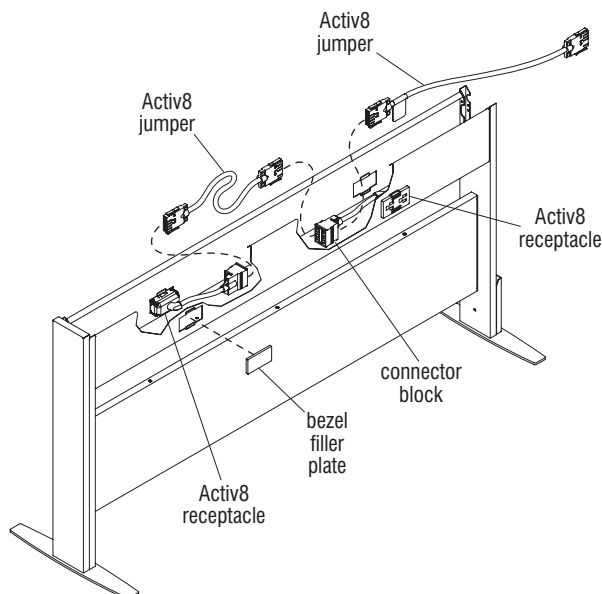

Figure 14
2. Determine which openings in the side of the trough will receive Activ8 receptacles. At locations not receiving a receptacle, snap in a bezel filler plate (Figure 14).
6. Determine which chase unit end will have 10-wire base or top infeed conduit. The plug-end of the power infeed will connect into the connector block in the trough assembly (Figure 14). For 10-wire base or top infeed conduit installation instructions, refer to "Top Infeed End Cover, Power Infeed Installation" on page 8 and "Base Infeed End Cover, Power Infeed Installation" on page 9.